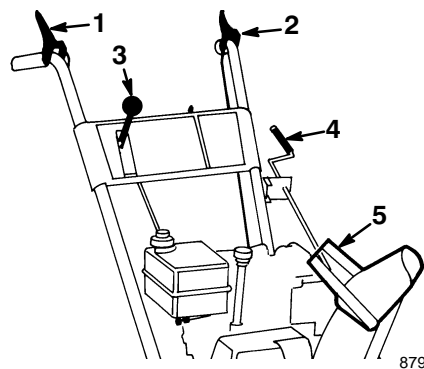

Figure 15
- **Auger/Impeller Drive Control Lever** (Fig. 15)—To engage both the auger and impeller, press the lever against the right handgrip. To disengage, release the lever.
- **Traction Control Lever** (Fig. 15)—To engage the traction (wheel drive), press the lever against left handgrip. To stop traction, release the lever.
- **Speed Selector** (Fig. 15)—This control has five positions: two reverse and three forward gears. To change speeds, move gear the shift to the desired position. The lever locks in a notch at each speed selection.
- **Discharge Chute Control** (Fig. 15)—Rotate the discharge chute control clockwise to move the discharge chute to the left and counterclockwise to move the chute to the right.
- **Chute Deflector Handle** (Fig. 15)—Move the deflector handle forward to move the snow stream down and rearward to move the snow stream up.
1. Release the traction and auger/impeller drive controls (Fig. 15).
1. Release the traction and auger/impeller control levers (Fig. 15).